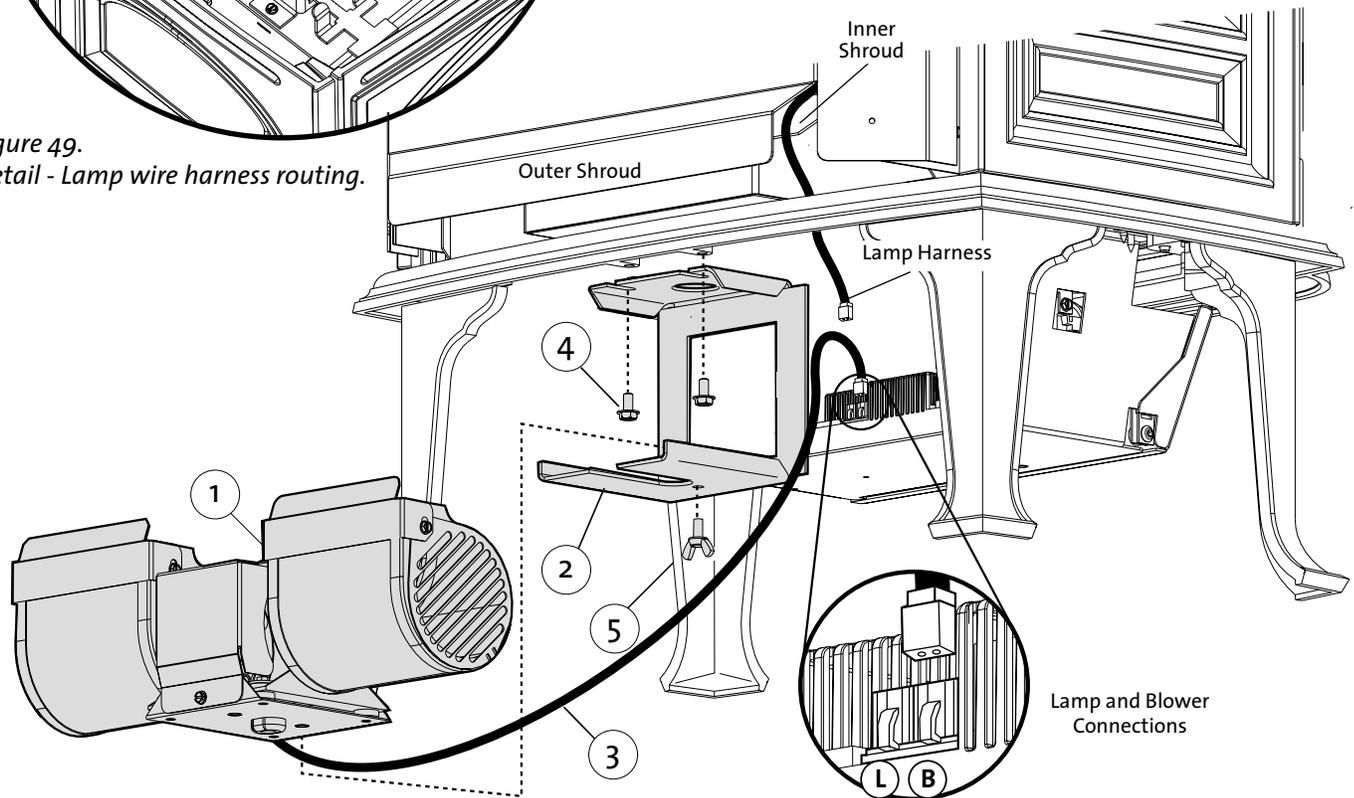

Figure 50. 157470 Blower Kit Components used for GF 300 DV IPI Allagash.
2. Orient the Blower Bracket (fig. 50, #2) as shown and securely attach it to the stove using the two M6 flange head hex bolts (#4).
4. Connect the Blower wire harness to terminal (B) on the IFC board as shown in fig. 50. Use the wire tie provided to take up any extra slack in the harness.